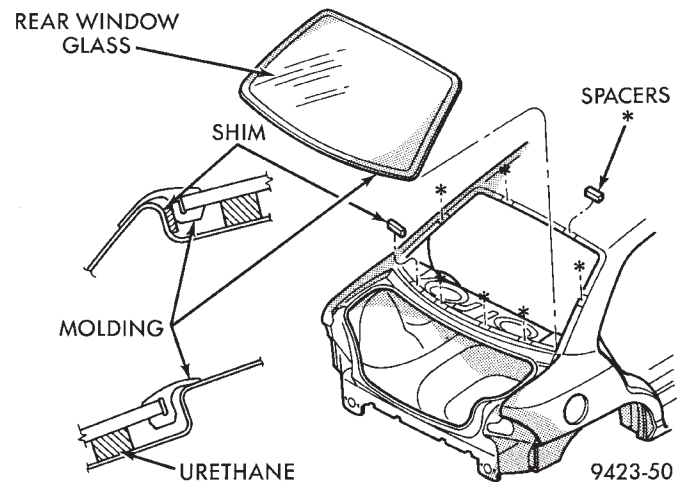

Fig. 7 Rear Window Glass—Typical
(1) Prepare the work area, window fence, and glass the same way as described in the Windshield section of this group.
(2) Place fence spacers at the locations shown (Fig. 7).
(3) Install the rear window molding on glass.
(4) Apply a 10 mm (0.4 in.) bead of urethane along centerline of window fence.
(5) Install the glass in the same manner described in the Windshield section of this group (Fig. 7).
(6) Connect rear window defogger wiring, and rear window mounted radio antenna, if so equipped.
(7) Install C-pillar applique, and interior trim.
(8) After urethane has cured, water test rear window to verify repair. Verify rear window defogger operation, see Group 8N, Rear Window Defogger.